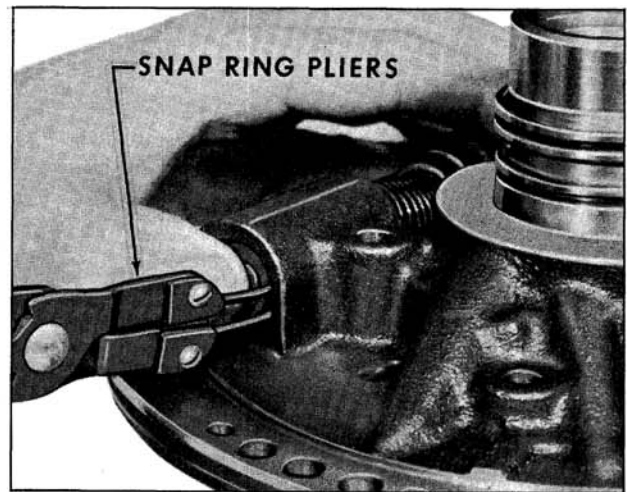

Fig. 6-424 Installing Snap Ring
6. Compress reverse and modulator boost valve with thumb, then install retaining snap ring. (Fig. 6-424)